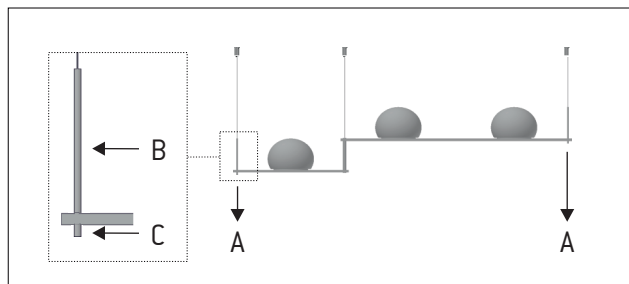

Figure 2
2 - Find the stems (A) located at both ends of the lamp. Each one is formed by the pieces (B) and (C) that will be used in step 3. Figure 2.